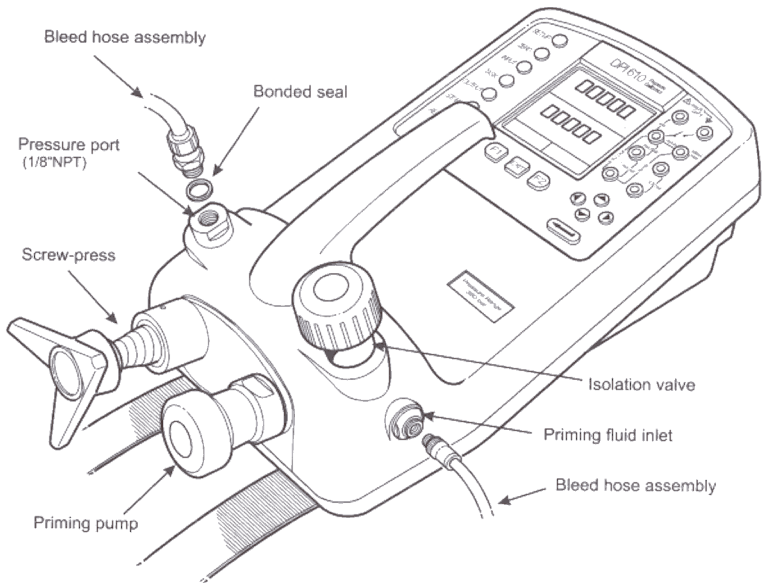

Figure A1 - DPI 610 HC Connections
This version of the instrument provides manual generation of hydraulic pressure and consists of a screw-press with a priming pump and priming isolation valve as shown below. The bleed pipe connections are also shown in Figure A1.
- ❑ Fit the bleed pipe connection to the priming port using a bonded seal as shown in Figure A1.